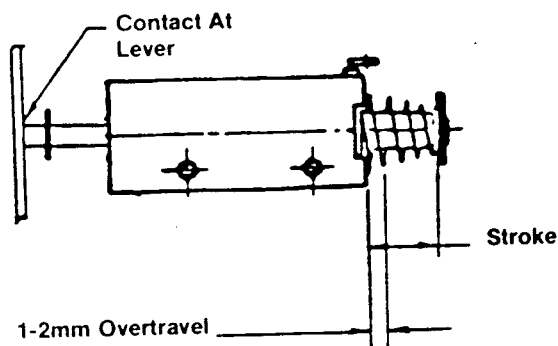

Figure 19a
3. When properly adjusted the solenoid armature stroke will be .39 to .60 inch (10 to 15mm) when measured between the fully extended and bottomed positions (Figure 19a). Approximately 1 to 2mm overtravel should occur after the breaker has tripped.
3. When properly adjusted, the solenoid armature stroke will be .39 to .60 inch (10 to 15mm) when measured between the fully extended and bottomed positions (Figure 19a). Approximately 1 to 2mm of overtravel should occur after the breaker closes.